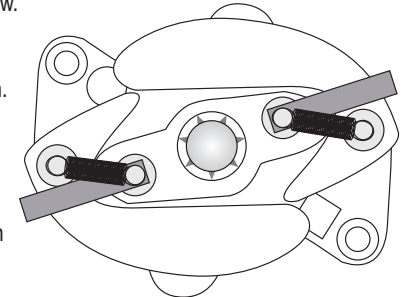

FIGURE 1
4. Install one advance limiter on each inner advance pin. (See Figure 1)